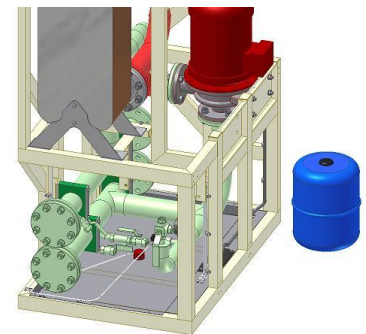

Figure 4.2-4
4. Remove the expansion vessel by rotating it counter clockwise (Figure 4.2-4).